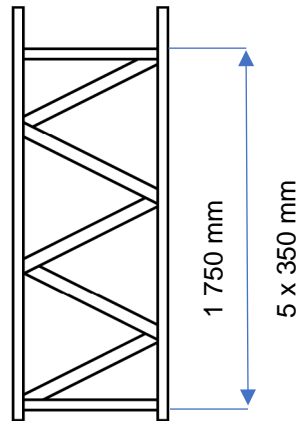

Fig. 6
6. Attach the 2nd end of the 1st diagonal beam with the prescribed distance. (Fig. 6)